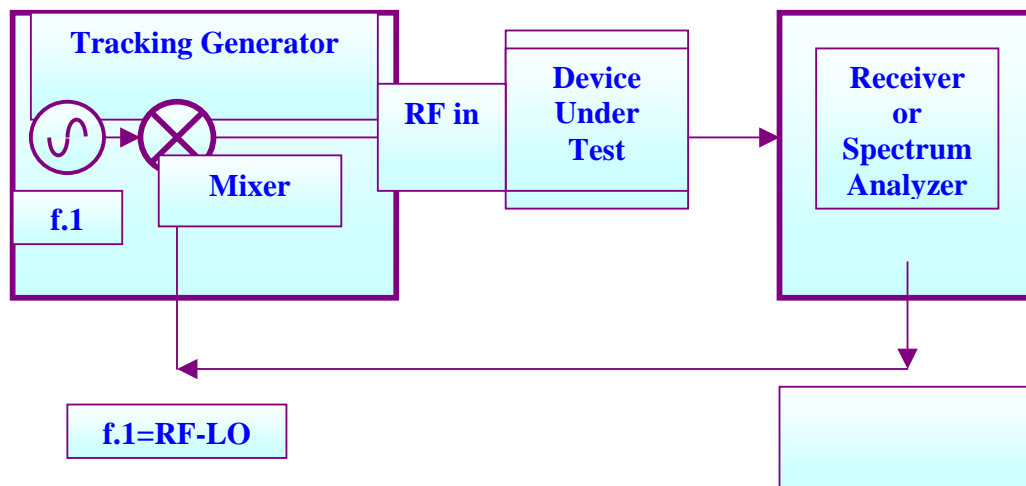

Figure 1. Basic setup for swept frequency measurement using a tracking signal generator
Tracking generators are signal sources with their frequency controlled by a frequency sweeping receiver or spectrum analyzer. The typical block diagram of such a system is given in figure 1:
2. The amplitude settings of the tracking generator are left unchanged from step 1, and the device is inserted as in figure 1. The measurement is now repeated. The result is stored in the receiver/spectrum analyzer's memory.
In the case of the setup of figure 1, the frequency match accuracy is governed by the accuracy of the frequency of the internal oscillator in the tracking generator, f_1 . This accuracy requirement is especially important when measuring narrow band devices such as filters, and especially those with steep slopes, such as band pass or band stop filters. Inaccuracy in the frequency match (RF in versus the tuned frequency of the receiver or spectrum analyzer), will result in erroneous results in the measurement of the steep slope characteristics.